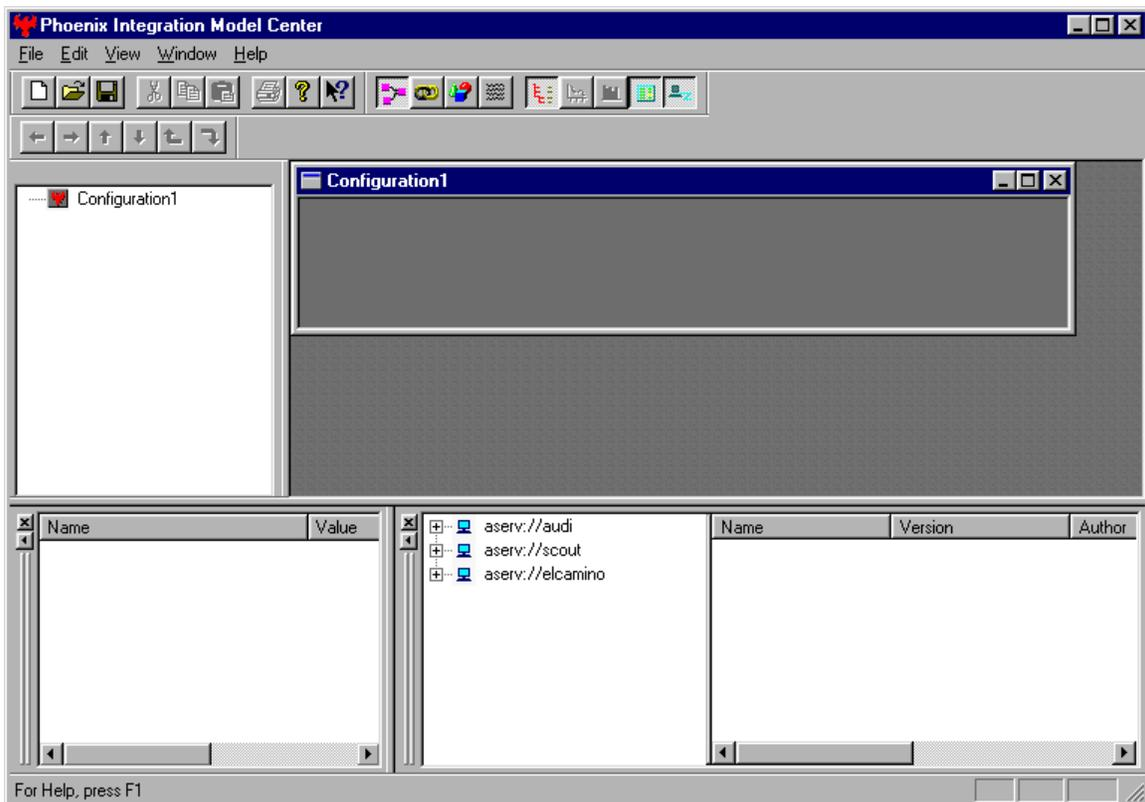

Figure 25. ModelCenter with Configuration window open.
2. On the toolbar open a new configuration by clicking on the **New File** button. If they are not already open, open the **Data Monitor**, **Component Tree**, and **Server Browser**. After opening the above windows, the ModelCenter window should look like the one below in Fig. 25.